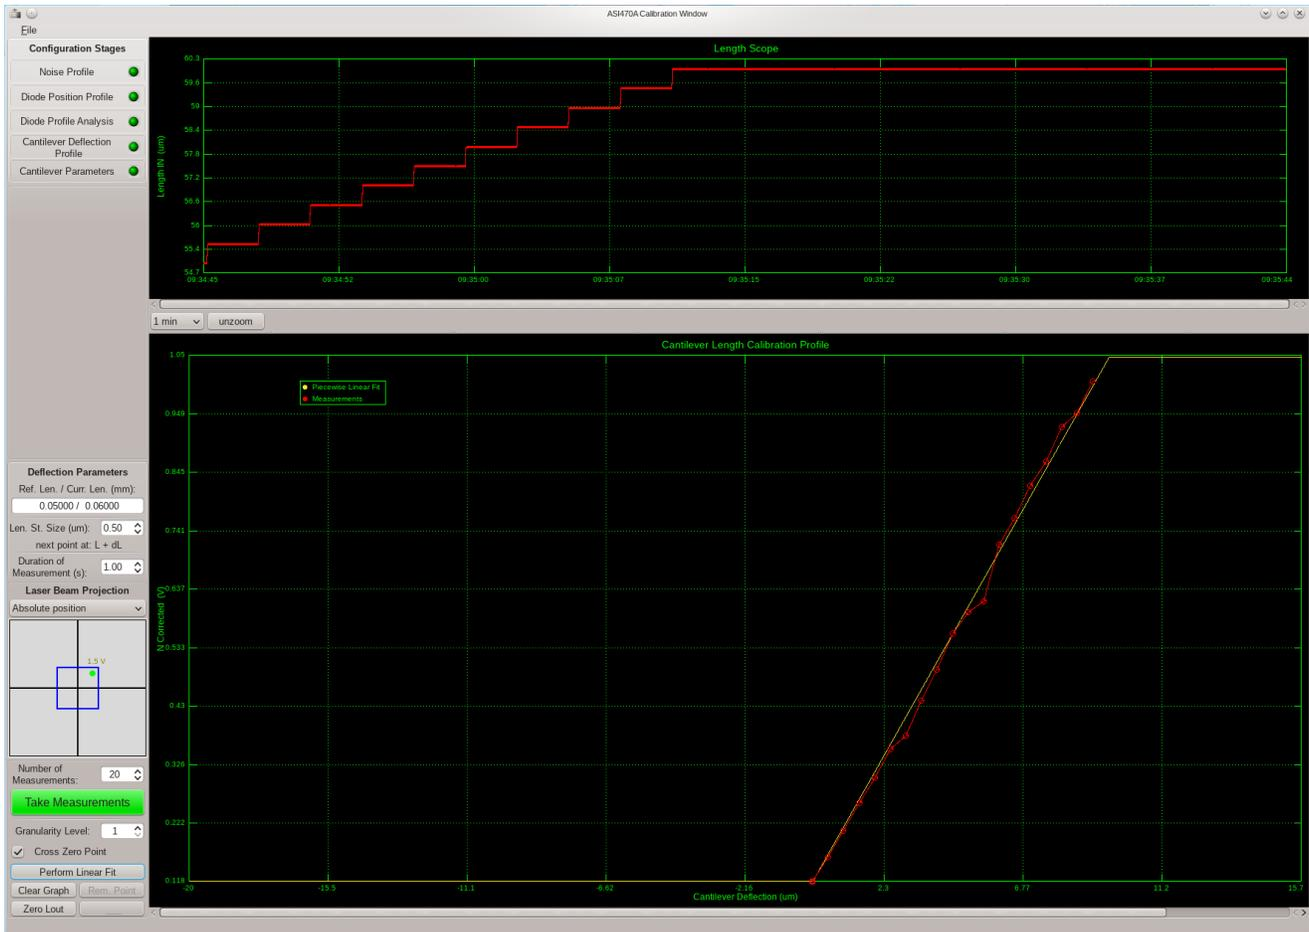

Figure 13 Cantilever Deflection Profile Stage of Calibration
3. Under Configuration Stages click on Cantilever Deflection Profile which should show the window as in Figure 13.